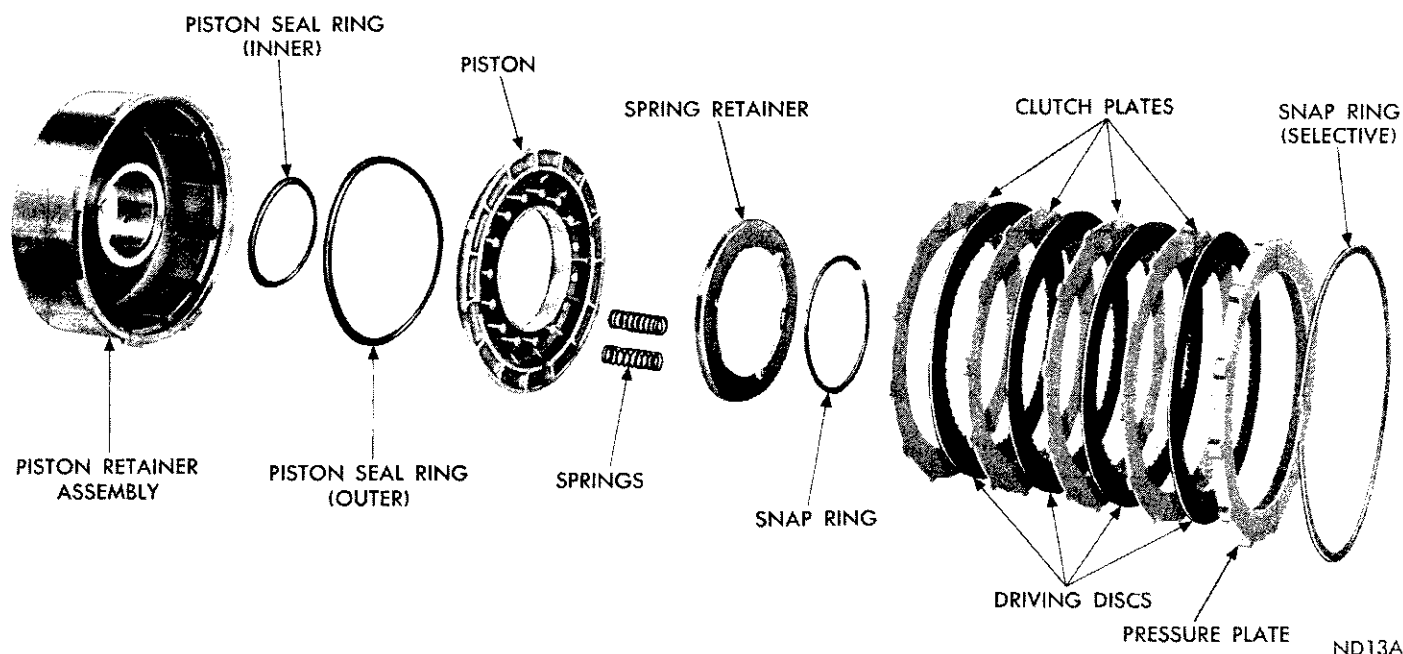

Fig. 53—Front Clutch Disassembled (A-727)
Figure 53 shows a disassembled view of the front clutch assembly.
(1) Lubricate and install inner seal on hub of the clutch retainer. Make sure lip of seal faces down and is properly seated in the groove (Fig. 53).
(2) Install outer seal on the clutch piston, with lip of seal toward bottom of the clutch retainer. Apply a coating of wax type lubricant or Door Ease to outer edge of seal for easier installation of the piston assembly. Place piston assembly in retainer and carefully seat piston in bottom of the retainer.